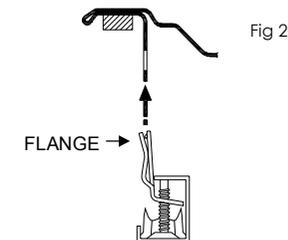

Fig 2
10. Push the fixing clip onto the clip rail of the sink so that the flange of the clip locks into the hole in the clip rail (fig. 2).